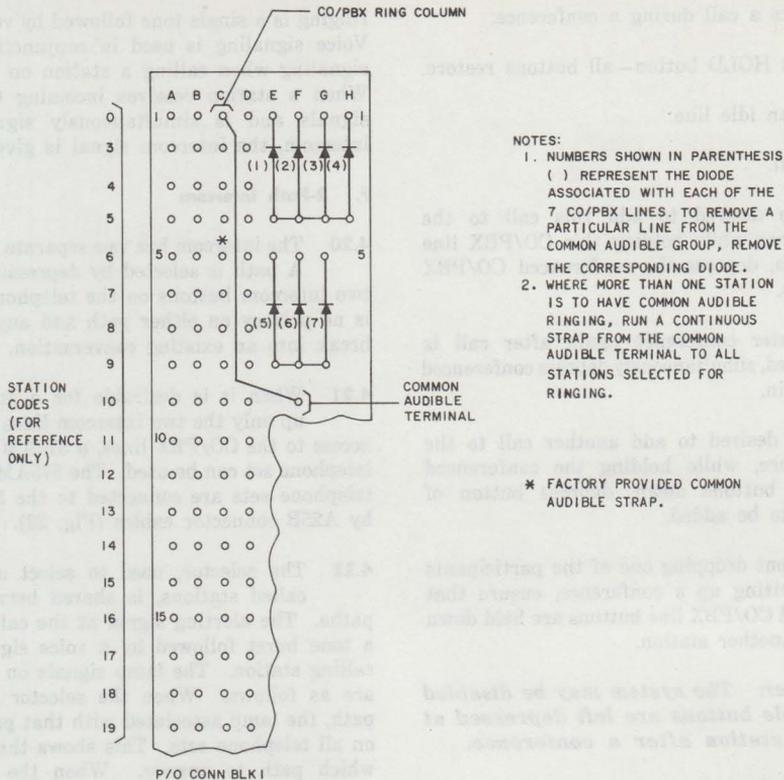

Fig. 22—Connections for Common Audible
**4.05** The 7A Communication System is factory-wired for the attendant station (intercom code 0) to receive **tone ringing** whenever there is an incoming call on any of the CO/PBX lines. (The lamp under the associated CO/PBX line button flashes for visual identification of the calling line.) See Fig. 22 for connections.
corresponding common audible diode from connecting block 1 (Fig. 22). When a CO/PBX is removed from the common audible ringing arrangement: